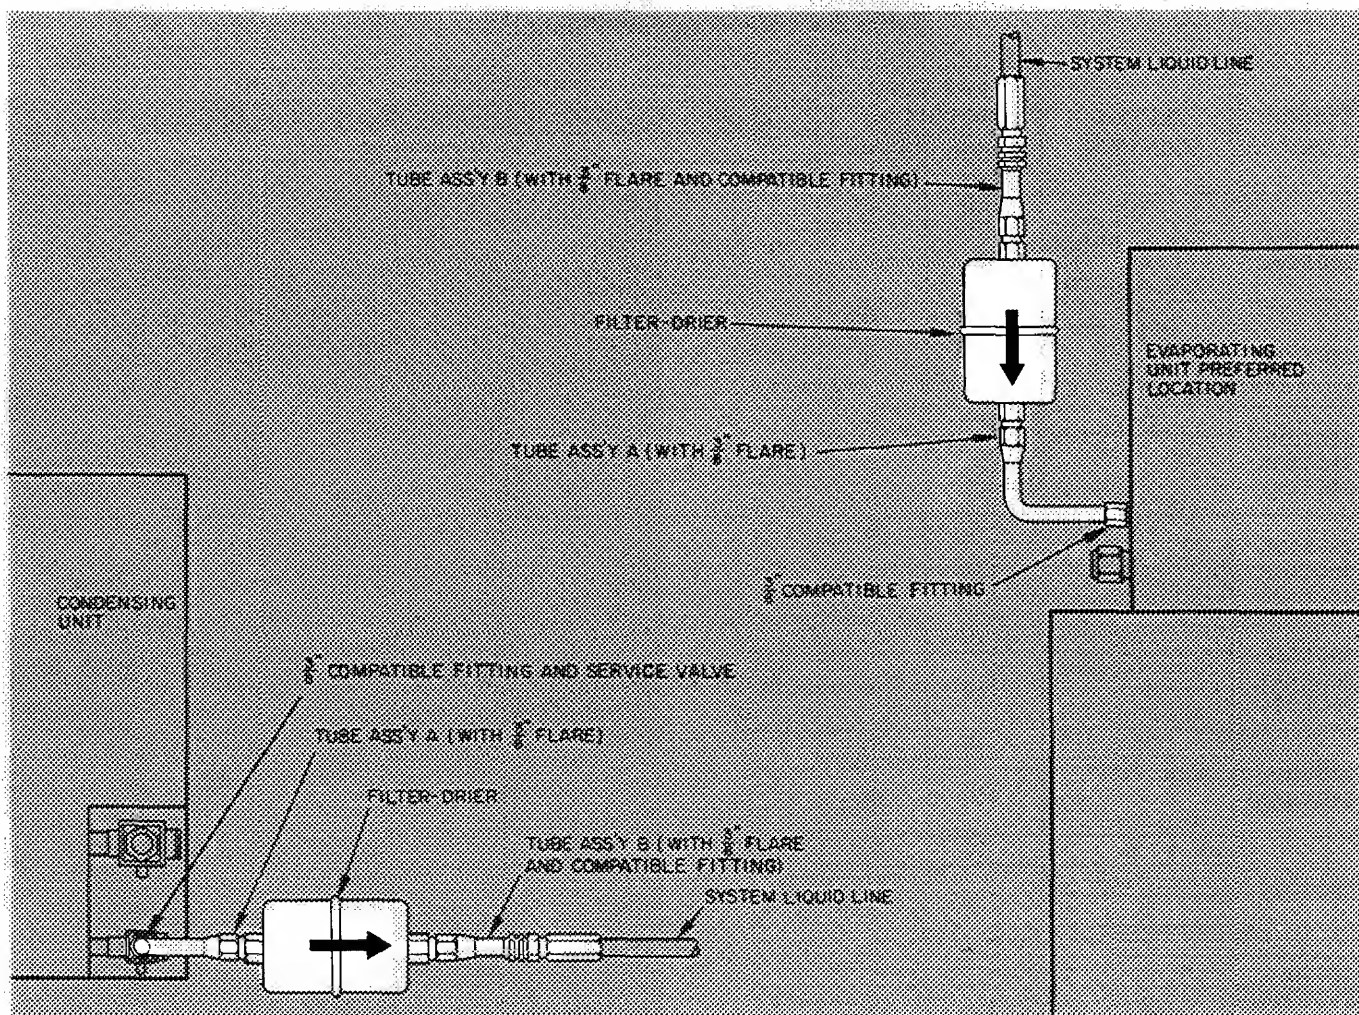

Fig. 2 — Filter-Drier Assembly Installation (38CC, 38CE045 and 005)
**38CE045,005 AND 38CC UNITS** — A filter-drier package is shipped with these units. Included with filter-drier are 2 short length tubing assemblies that are equipped with flare and/or Compatible Fittings. Use tubing assemblies to install filter-drier into system liquid line at evaporator or condensing unit. See Fig. 2. Connect tubing assembly A (90° assembly) to evaporator or condensing unit liquid line Compatible Fitting. Complete the filter-drier installation as shown.